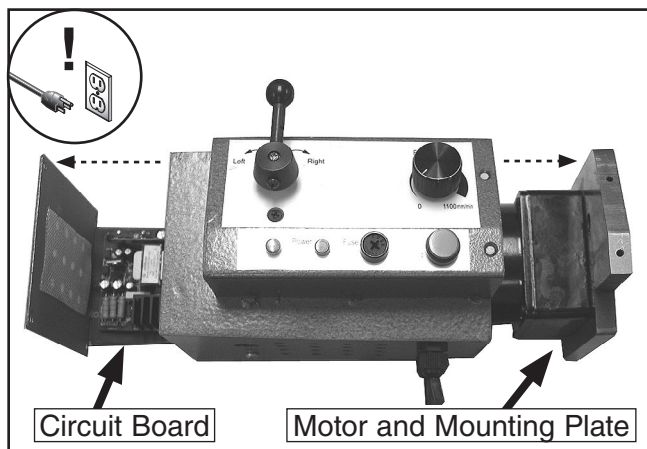

Figure 6. Power feed breakdown.
7. Carefully slide the motor and mounting plate from the housing a few inches as shown in **Figure 6**.
8. Carefully slide the circuit board and vent cover from the housing a few inches as shown in **Figure 6**.